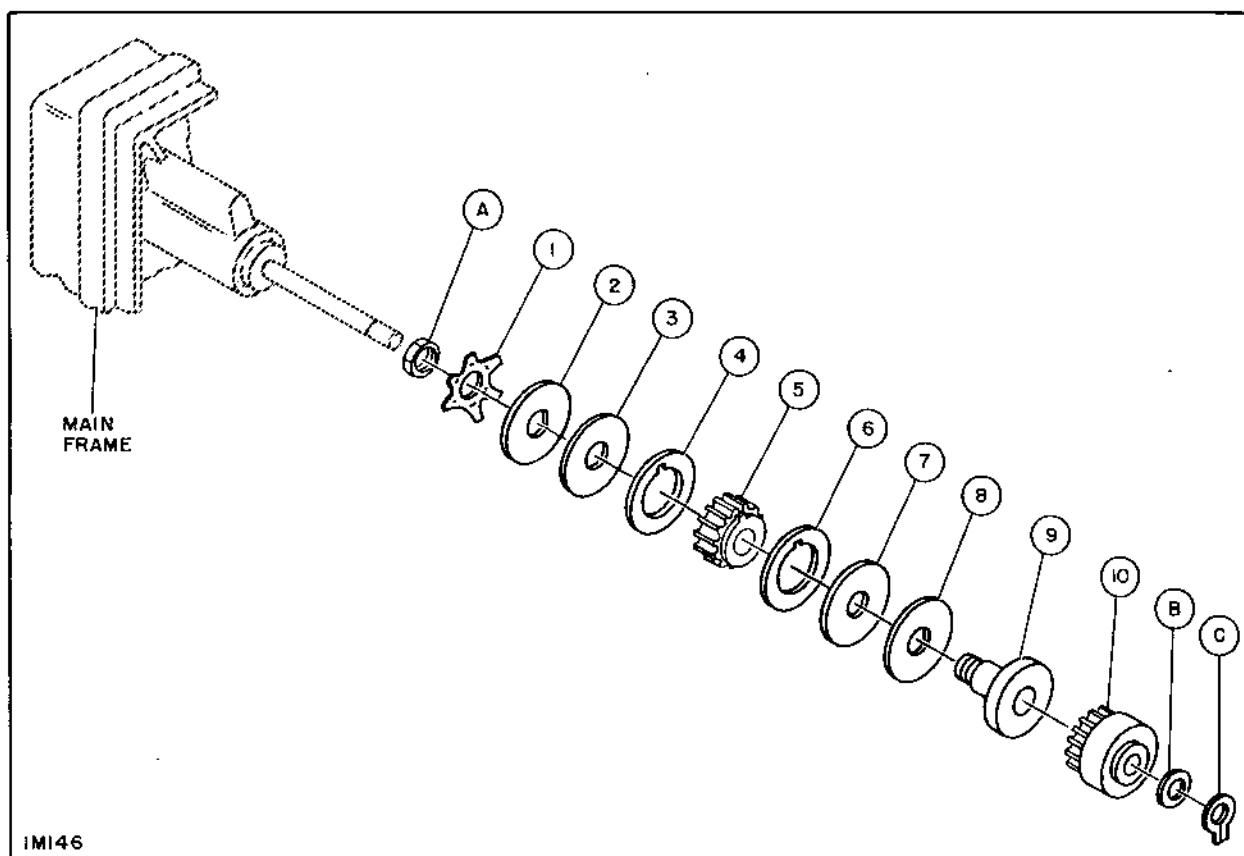

Figure 33
2. Remove retaining ring (C) and spring washer (B) from end of shaft (figure 33).
5. To disassemble rewind pulley clutch assembly, remove hex nut (A) and slide off items (1) through (8) from pulley (9).